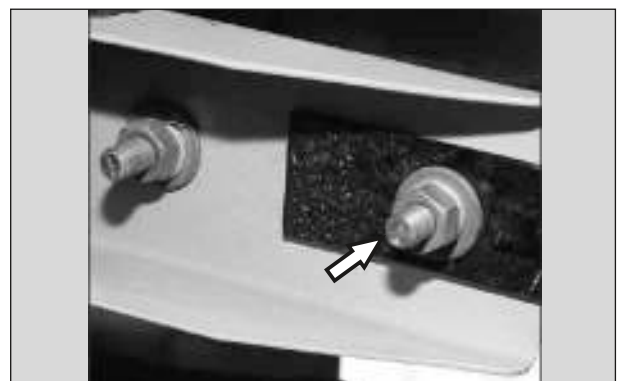

Fig. 3.11
- Take out the hexagonal flange screw M8x20 from top side rear engine cradle link. Remove the link rear engine cradle. (Fig. 3.11)
- Loosen 2nos. Hexagonal nuts M10 by holding the bolt rear engine mounting from the rear engine mounting cradle. Remove the nuts along with 2nos. Punched washer and 1no. Spring washer from top side of each bolt. (fig. 3.11)